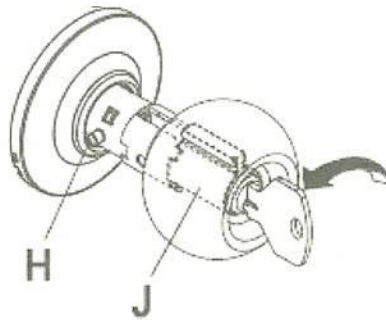

Figure 9-2. Door Lockset.
3. Make sure both the lockset and deadbolt are installed so the key direction (notches up) is the same. If necessary, the lockset can be changed to place the notches up, as follows (see Figure 9-2). Unlock the installed lock. Insert the key **half-way** (do not insert completely). Push in the retainer pin (H) on the neck of the knob and pull the knob just past the pin. Continue holding the knob and use the half-way inserted key to rotate the cylinder (J) to the correct orientation. Push in the retainer pin and push the knob back into place. **Do NOT** pull the knob and cylinder off the shaft while doing this.